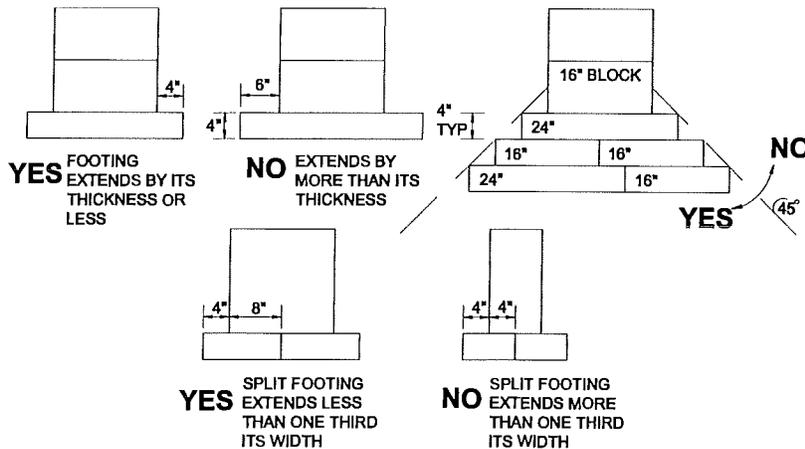

Figure 11. Maximum footing extensions
- Design footings with a footing extension (projection beyond the base of the pier) no greater than the footing thickness (Figure 11). Increase footing thickness if necessary.